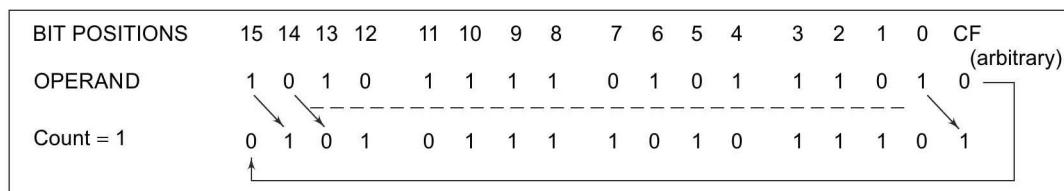

Fig. 2.12 Execution of RCR Instruction
RCR: Rotate Right through Carry This instruction rotates the contents (bit-wise) of the destination operand right by the specified count through carry flag (CF). For each operation, the carry flag is pushed into the MSB of the operand, and the LSB is pushed into carry flag. The remaining bits are shifted right by the specified count positions. The SF, PF, ZF are left unchanged. The operand may be a register or a memory location. Figure 2.12 explains the operation.